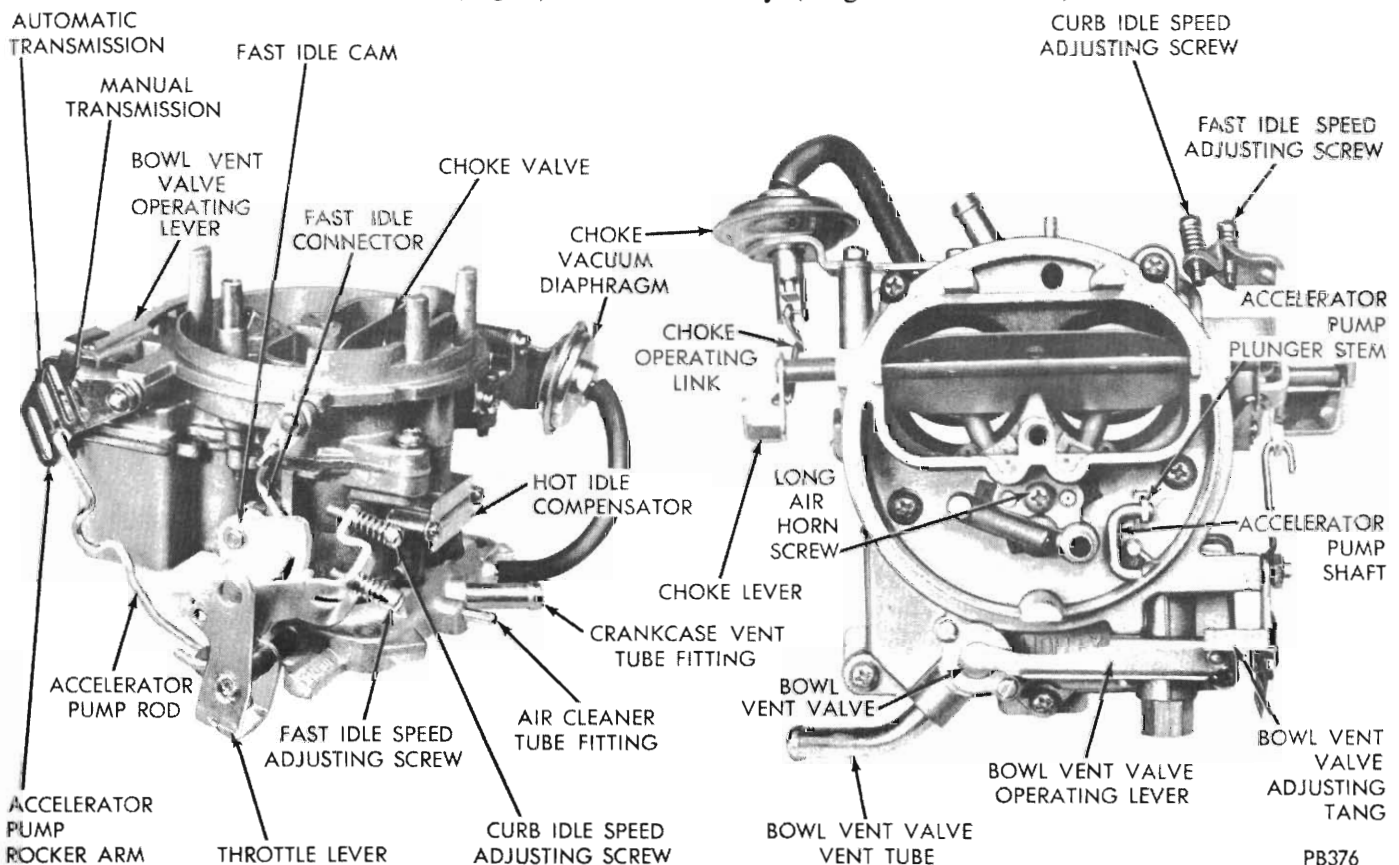

Fig. 1 - Carburettor assembly (Holley 2210 series)
(16) Remove screws attaching bowl vent valve cover to fuel bowl. Lift off cover and remove vent valve, spring and seal (Fig. 1). Remove seal from bottom of valve.